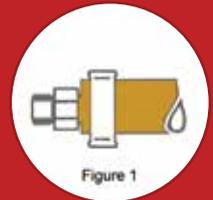
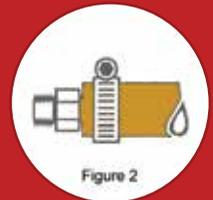

Figure 1
Figure 2
- All flexible hoses or tubing should be secured as follows: for 8mm internal diameter or greater operating at 50mbar or less then crimp clips (Figure 1), swaged fittings or worm drive clips (Figure 2) can be used. Worm drive clips should not be used for hose or tubing less than 8mm internal diameter and hose operating at greater than 50mbar.
- 5 Make sure the handle is in the "closed" position, (this happens when on the handle is a visible red rectangle with the marking "OFF") (Figure1).
- 7 Pull the ring upwards (Figure 2) and fit the regulator (e.g. Kosan 682) onto the valve. Afterwards give the ring a strong push downwards (Figure 3). A 'click' should be heard, meaning the regulator has been correctly fitted.
- 3 Remove the regulator by pulling the ring upwards as in Figure 2. (This can only be done if the handle is in the OFF position)